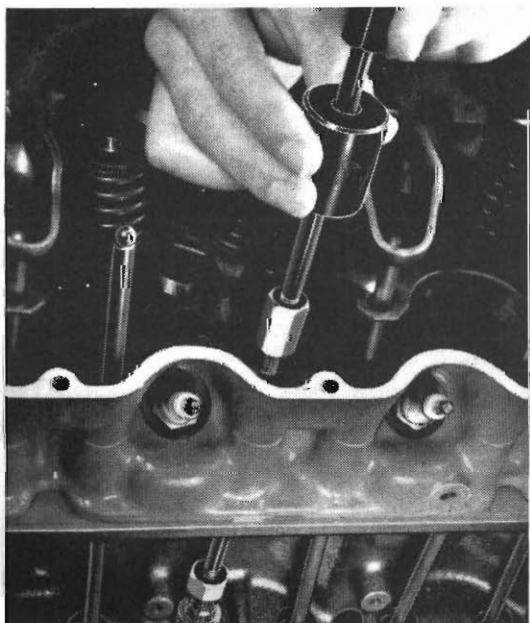

Fig. 19 - Removing hydraulic tappets using Tool No. E9C40H
- (1) Remove cylinder head cover and tappet (side plate) cover.
- (2) Remove rocker arms and guide plate assembly by removing the rocker pivot bolts.
- (3) Remove push rods and identify to ensure installation in original location, by using Tool E1174 (Push Rod Rack).
- (4) Slide pick-up Tool No. E9C40H through the pushrod opening and seat tool firmly into the tappet opening, tightening clamp screw to grip tappet.
- (5) Withdraw tappet with a twisting motion or 'tap' upwards with the sliding weight on the puller — Loosen the tool clamp and remove the tappet through side opening. (See Fig. 19).